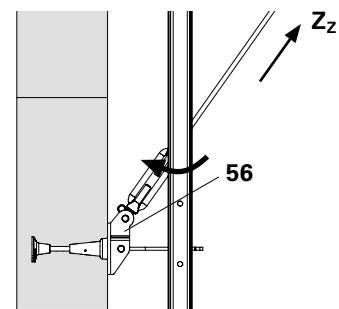

Fig. B1.34d
6. Insert Eyelet Bolt $\varnothing 25$ (60.1) into the Bracing Shoe Wall CB M24 (56) and secure with designated bolt and cotter pin. (Fig. B1.34d)